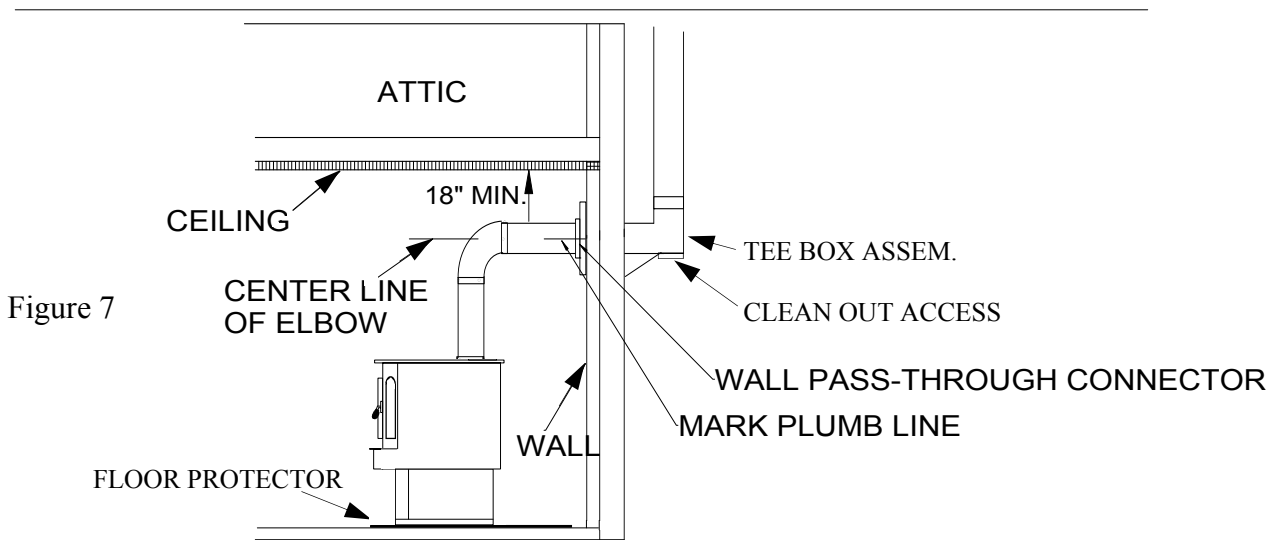

Figure 7
1. Mark plumb line on wall directly behind center of heater. (See Figure 7).
3. Measure, so there will be at least 1/4" rise per foot of horizontal connector pipe, maintaining clearances to ceiling as noted in Figure 7, Page 20. This will give you center of hole for chimney penetration.
5. Connect chimney collar to tee-box using #24 ga. minimum blued or black steel connector pipe. **DO NOT** use galvanized pipe. Connect each section so the crimped end faces downward, and secure each section to each other using three (3) sheet metal screws or rivets.